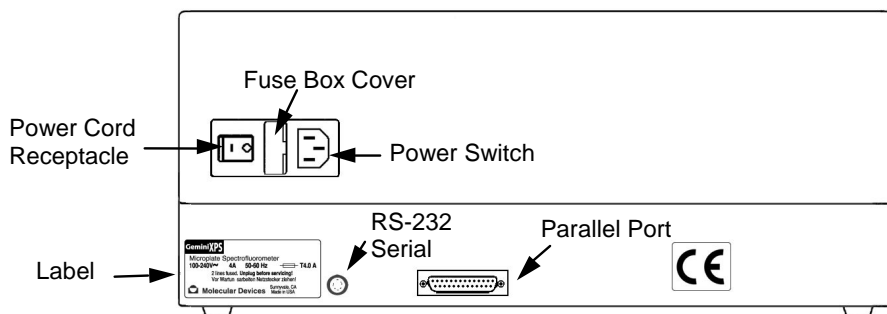

Figure 1.6: Schematic of the back panel of a Gemini reader.
- 2 Turn the instrument around so that the back of the instrument is facing you as shown in Figure 1.6.